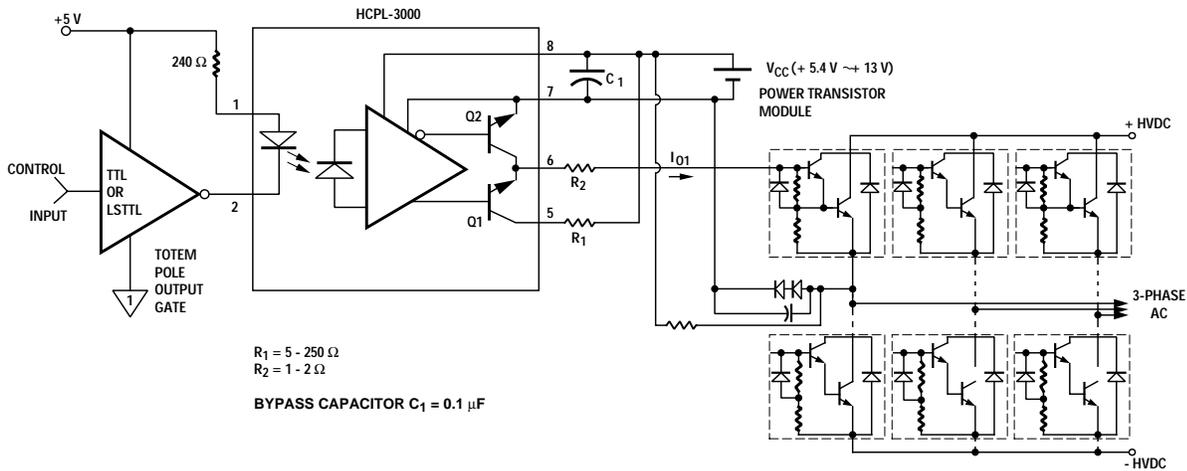

Figure 1. Recommended output transistor protection and typical application circuit.
THE USE OF A 0.1 $\mu$ F BYPASS CAPACITOR CONNECTED BETWEEN PINS 8 AND 7 IS RECOMMENDED. ALSO, CURRENT LIMITING RESISTORS ARE RECOMMENDED (SEE FIGURE 1, NOTE 2, AND NOTE 7).
large amounts of current. Figure 1 describes a recommended circuit design showing current limiting resistors  $R_1$  and  $R_2$  which are necessary in order to
- $R_1$  sets the base current ( $I_{O1}$  in Figure 1) supplied to the power bipolar device.  $R_2$  limits the peak current seen by Q2 when the device is turning off. For more applications and circuit design information see Application Note "Power Transistor Gate/Base Drive Optocouplers."